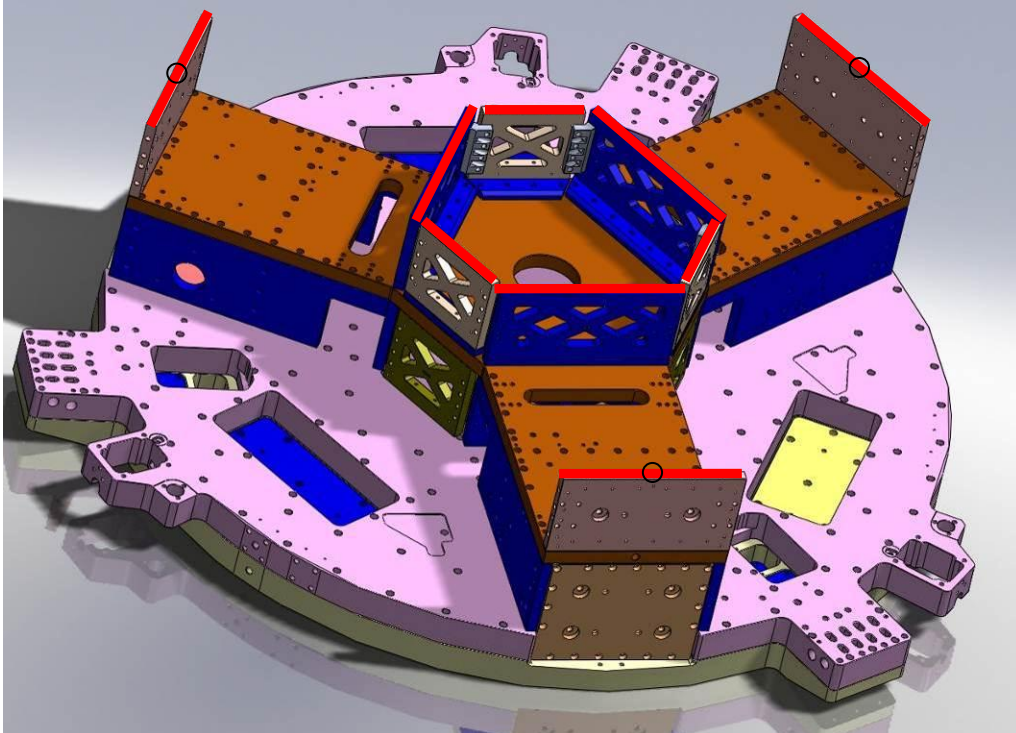

Figure 85: D0901518 Keel Plate Down-Facing contact areas with Stage 2 in red and pins locations circled in black
- Position D0901518 (pocketed surface facing up) over D0901526, D0901528 & D0901533 Stage 2 Upper Walls as shown on Figure 85 (contact surface in red). D0901518 Keel Plate Down-Facing is located with (3) 3/8" x 1" dowel pins already pressed in (3) D0901533 Upper Outer Walls (see black circles on Figure 85 for pins locations).